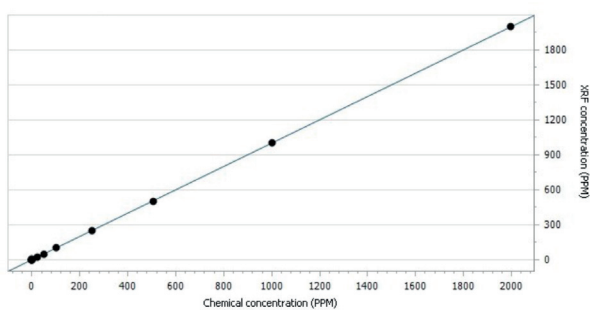
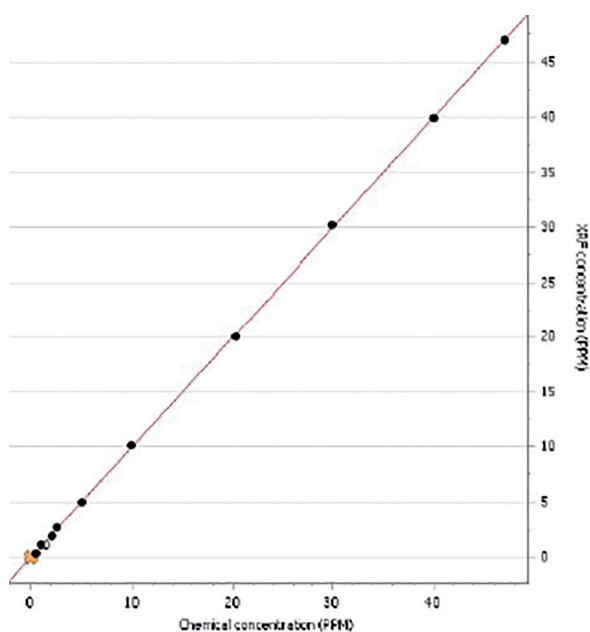

Fig. 4: Calibration curve for P calibration in vegetable oil for the concentration range of 0 to 2000 ppm P.
Fig. 5: Calibration curve for Cl in vegetable oil for the lower concentration range of 0 to 50 ppm Cl.
Sets of matrix-matched vegetable oil standards have been used to calibrate the S2 POLAR. Typical used calibration ranges for P are up to 2000 ppm P (Fig. 4), up to 1000 ppm for S, up to 100 ppm for Cl (Fig. 5), and up to 1000 ppm for Ca. The sets also contain blank samples, suitable quality control (QC) samples for lower and higher concentration ranges as well as drift control (DC) samples ensuring long-term stability of the calibration. Such matrix-matched standards are available on request for the S2 POLAR and can be used for factory calibrations.